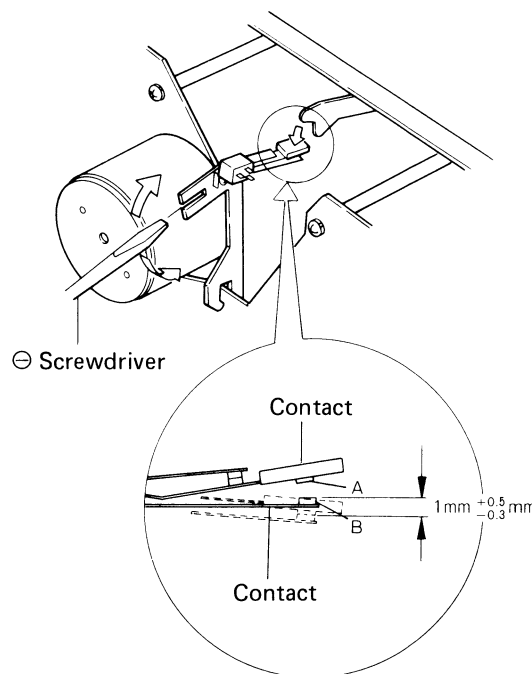

Fig. 39
The muting switch switching operation must be terminated and contact B must be moved $1(+0.5/-0.3)$ mm after switch separator contact A contacts fixed contact B when the set has been placed into the PLAY state (Fig. 39).
2. Mount the cassette tape, insert a screwdriver at the groove shown in Fig. 39 and adjust the position so that the cassette lamp lights simultaneously with stopping of the head base when the PLAY button is slowly pushed.